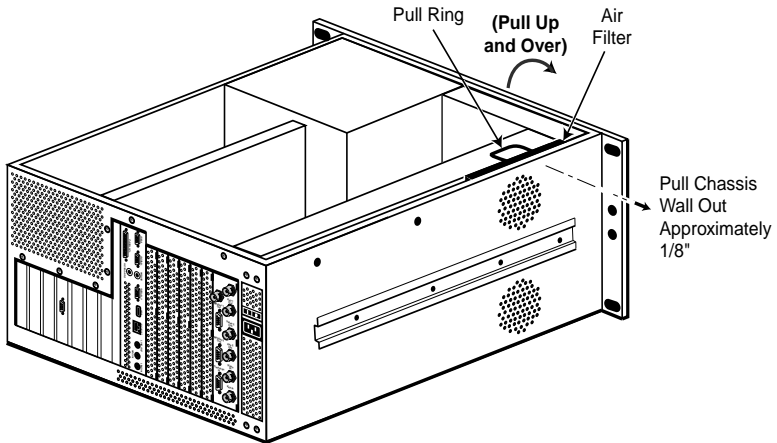

Figure 5-25. Pull Ring Access
- [] 1. Refer to Figure 5-25. Gently pull the side wall of the chassis out approximately 1/8” to relieve pressure on the air filter to facilitate removal.